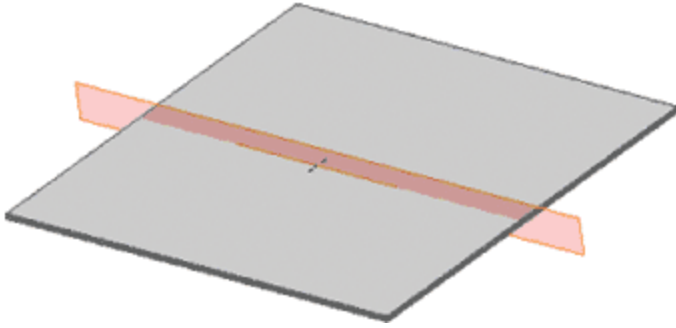

Figure 6: Work plane perpendicular to interface sketch.
3. Click the green checkmark in the Angle edit box. The work plane should match the one shown in Figure 6.